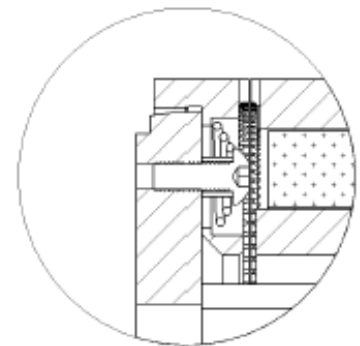

Figure 1
- The armature is then mounted on the splined adapter making sure the springs in the armature align with the screw holes in the splined adapter. The spacers and springs are placed over the screw and the screw is to be locked in place using a thread locker such as Loctite at assembly. Make sure the spring is not caught between the screw head and the spacer. See Figure 1.